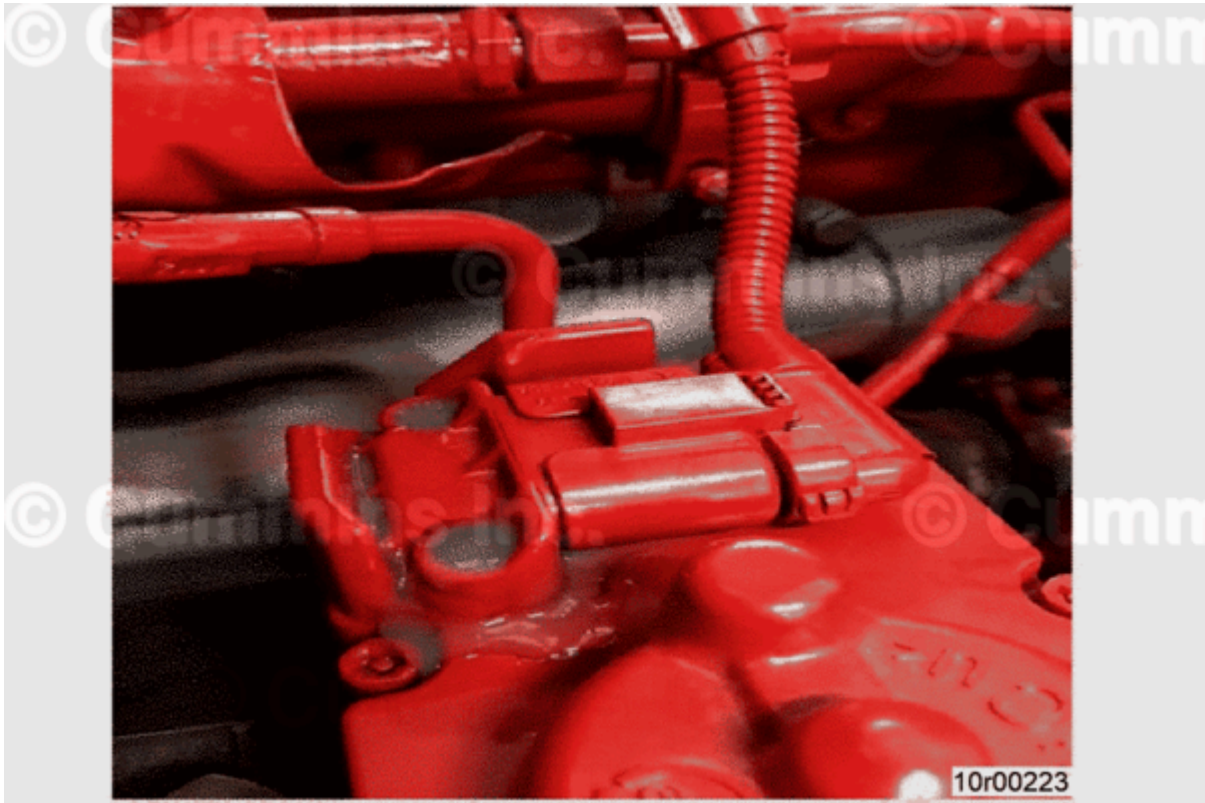

Figure 17, Completed Repair.
- Expect Loctite® to cure as shown in Figure 17 (above) in 2 hours after vehicle returns to service